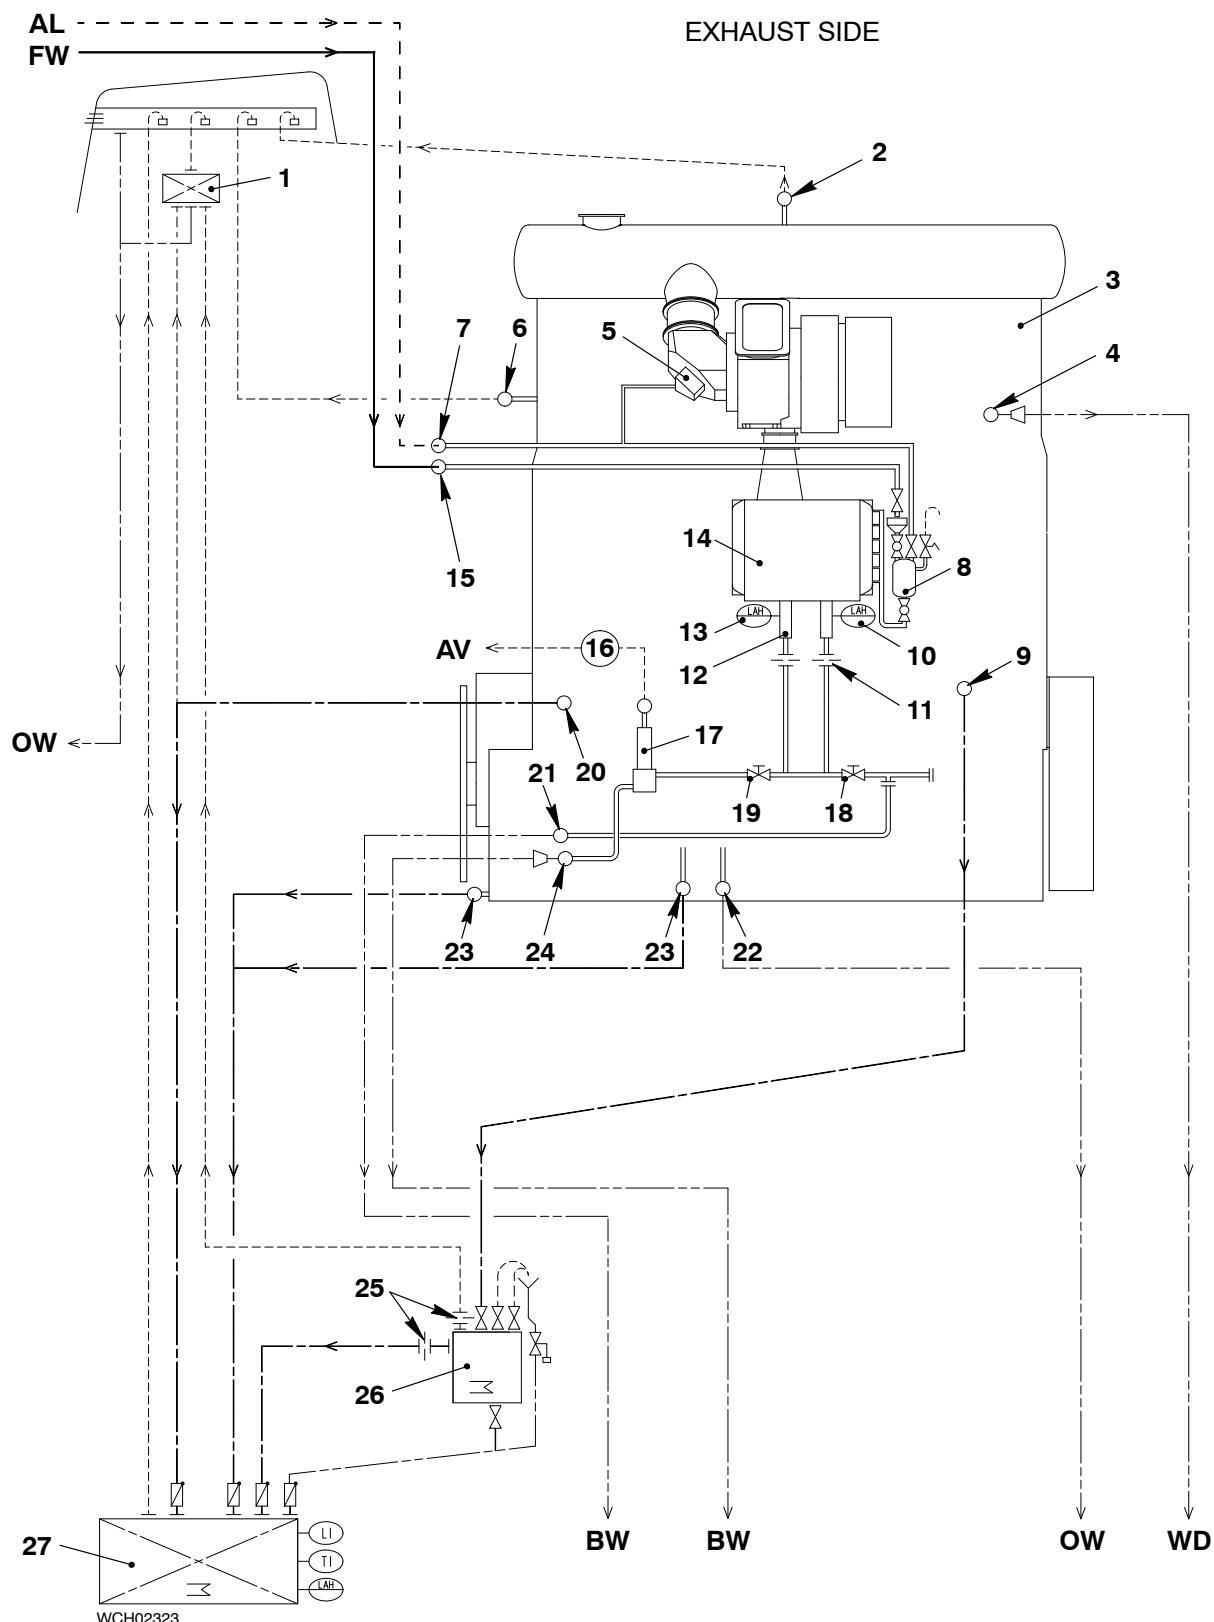

Fig. 1: Schematic diagram
- 2) Make sure that the ball valves (18) and (19) are in the position USUAL OPERATION (see Fig. 1).
- The ball valves (18) and (19) are in the position CLOSED (see Fig. 1).
- The scavenge air cooler (14) is defective (see 6606-1).
- If the orifices (11) are blocked and / or there is too much contamination in the condensate collector (12) (the filter is blocked).
- 5) To clean the condensate collector (12) and the orifice (11) do step a) to step c).
- b) Clean the condensate collector (12).
- c) Clean the orifice (11).
Key to Fig. 1